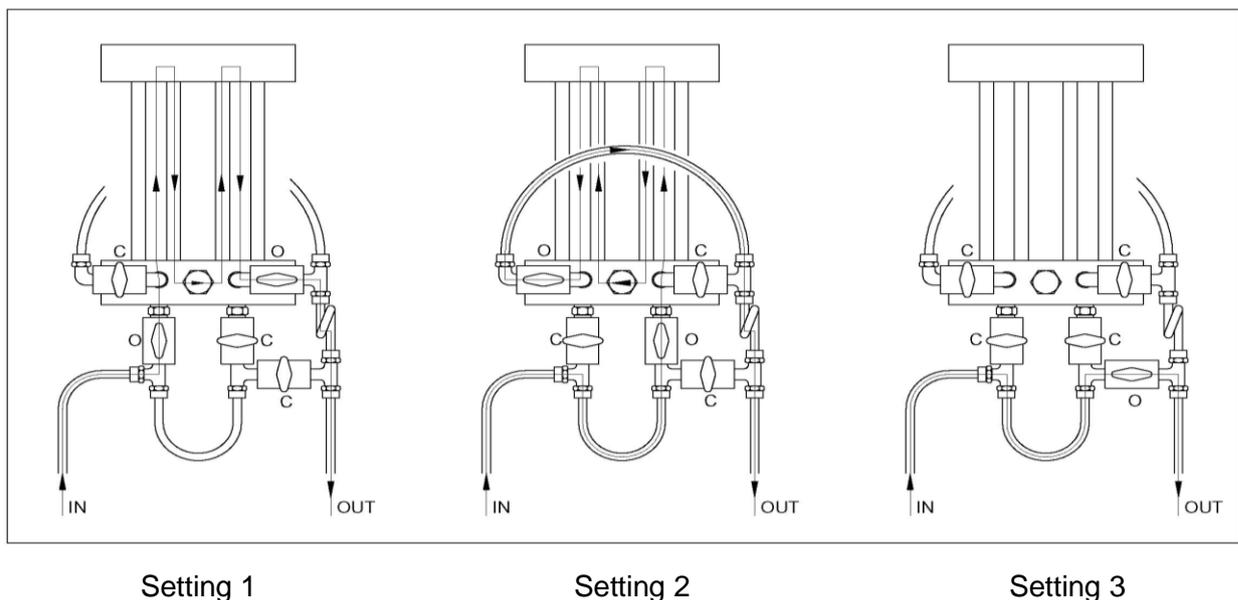

Figure 1
- 3.2 Connect the 6mm tubing from one of the back pressure outlet valves on the ELE pressure indicating panel (EL26-1880) to the IN connection (Figure 1) on the volume change unit.
- 3.3 Connect the 6mm pipe to the OUT connection (Figure 1) on the volume change unit. Connect the other end to the back pressure valve if back pressure volume change is to be measured, or to the cell pressure valve if volume change of cell pressure is required. For priming purposes the Triaxial cell valve should initially be closed.
- 3.4 Open the upper LH bleed valve and set the valves as seen in Figure 1 (setting 1).
- 3.7 Open the upper RH bleed valve and set valves to setting 2 (Figure 1).
- 4.1 With the by-pass (setting 3, Figure 1) & cell valve open, pump de-aired water through the volume change unit until no air appears at the cell connection and all air bubbles in the pipes are expelled.
- 5.13 Should water be required to flush the system at the Triaxial cell use setting 3 (Figure 1).
- 5.14 For volume change measurement use setting 1 or 2 (Figure 1) as required depending on initial movement of interfaces.
- 5.15 During the test select setting 1 or 2 (Figure 1) to change the direction of the water/kerosene interface, and also as the two interfaces get near to zero and 100 ml during a test. At no time must kerosene travel to the Triaxial cell or pressure system.